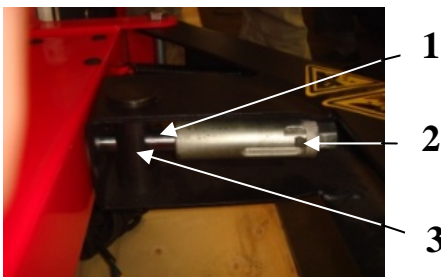

Fig 6
3.2.3.2 As shown in Fig 6 , plug cylinder rod (6—1)into the hole of bead breaking arm slide bush(6—3) ,then tight the bushing and fix shaft assembly (6—2) together at the end of the cylinder rod.